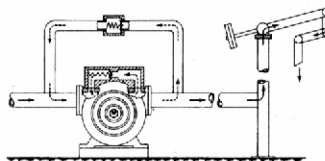

Fig. 7.3
- In case the supply pipeline is foreseen to be closed frequently (for example in applications for some types of drums or tanks like kilolitre drums or with an exorbitant flow rate), it is essential to foresee the application of an actual bypass line to be connected between the suction and the supply line (see Fig. 7.3).